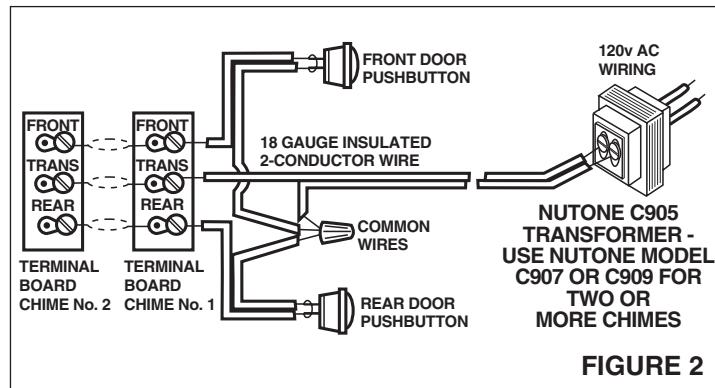

FIGURE 2
- 4. **Refer to Figure 2.** Bring wires into the mounting frame. Connect the transformer and pushbutton wires to the terminal board on the chime base plate.